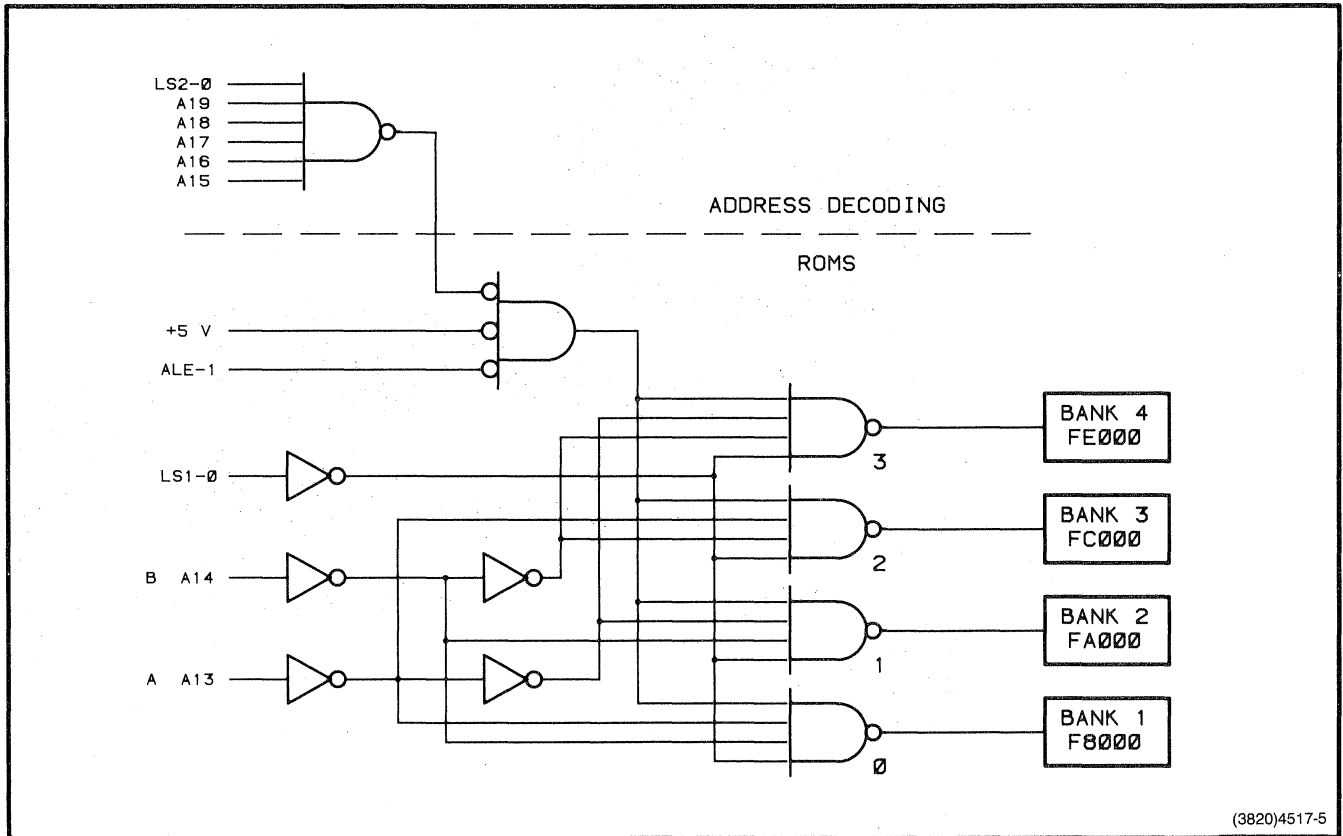

Figure 12-12. ROM Bank Decoder Logic.
3. The bank decoder selects one ROM bank in response to A13-1 and A112-1 in addition to ALE-1, LS1-0, LS2-0, and A15-1 through A19-1. See Figure 12-12, ROM Bank Decoder Logic, and Table 12-4, Selection Bits for ROM Banks for an exact description of how the bank decoder works.